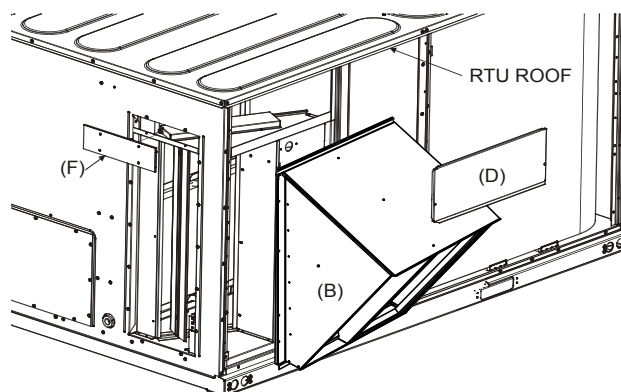

Figure 9
Install Filler Panel (D) under top of RTU and over top of Economizer Hood (B). Secure the right side of Filler Panel (D) with 1 self-tapping 10-16 x 1/2 screw provided with Economizer and secure the left side with 1 screw that was retained in **Step 2**. Install Horizontal Filler Panel (F) over return opening. See Figure 9.